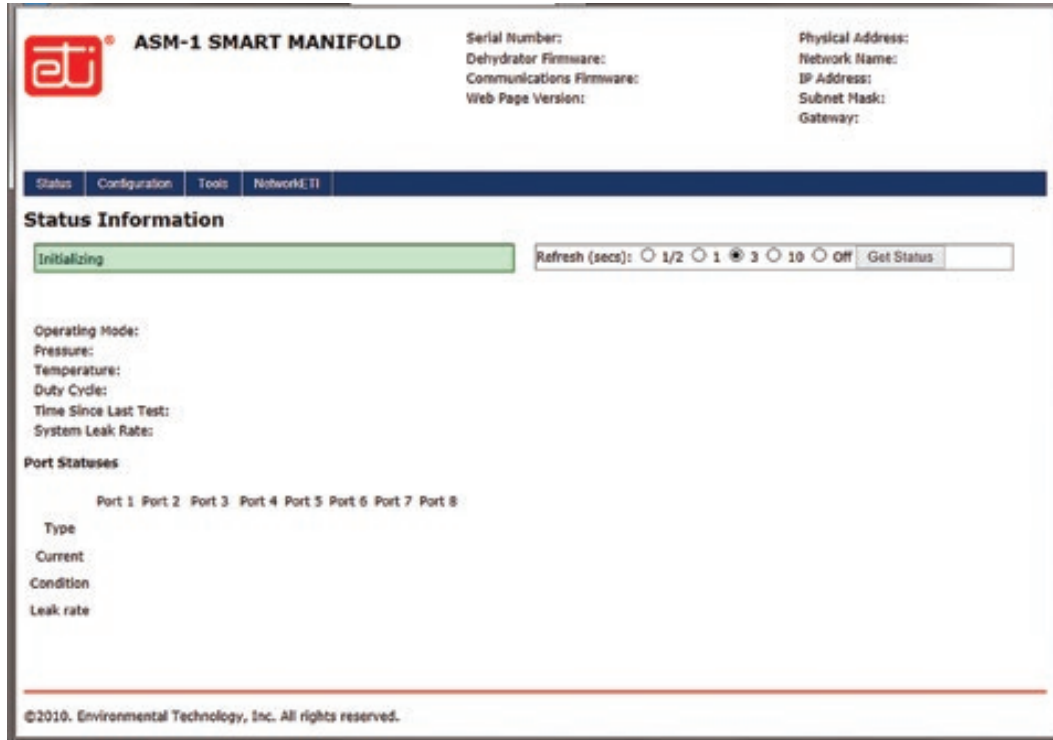

FIGURE 23. Smart Manifold Main or Status Screen.
To obtain operational status information for the Smart Manifold, use either the simple web interface or query the dehydrator via SNMP. Optionally, the dehydrator may be queried using the S-A protocol via one of the serial ports on the back of the units. The ASM-1 Smart Manifold Main or Status Screen is presented in Figure 23.
Reference Figure 23 on previous page (21)